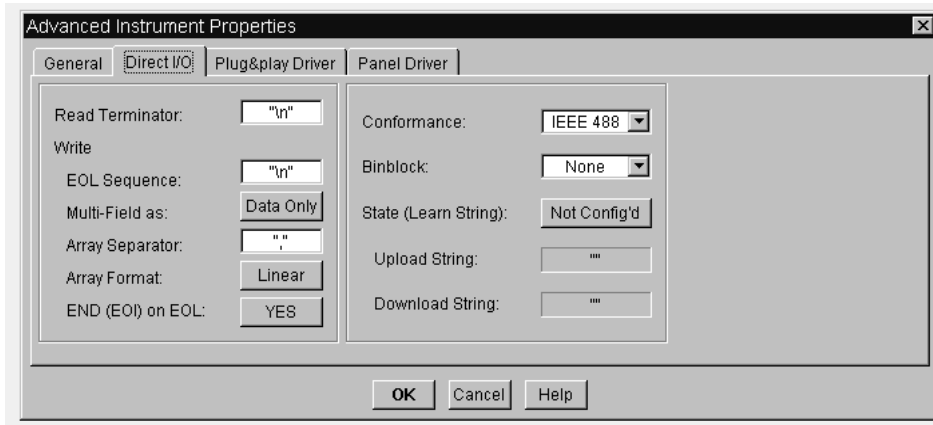

Figure 3.4. The Direct I/O Advanced Instrument Properties folder
11. Examine available options; the settings should agree with those of Figure 3.4; click OK.